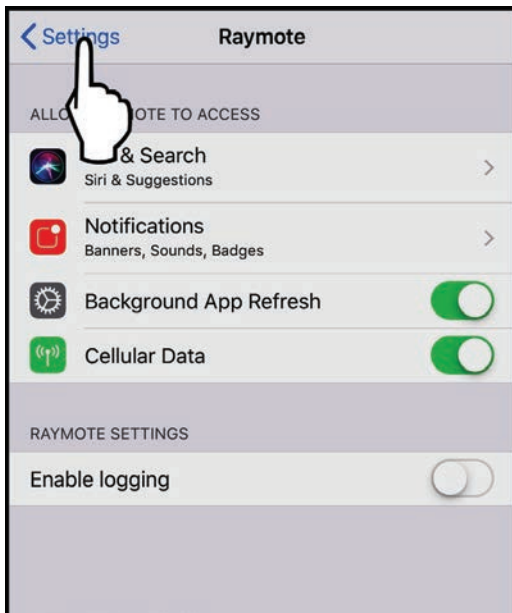

Figure 23. Select the Settings Menu
5. On the top left corner of the screen, press the "Settings" button to go the Settings menu. See **Figure 23**.